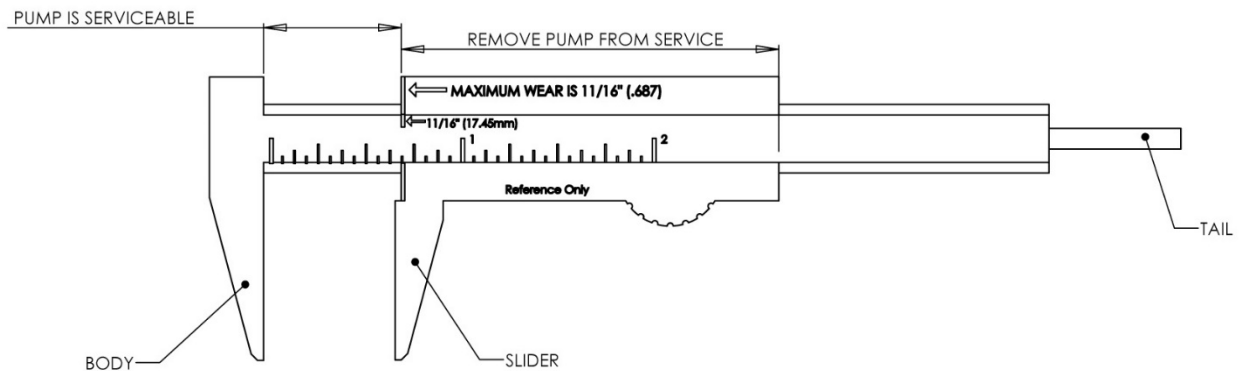

Figure 1
7. Read the position of the of the S.M.A.R.T caliper slider relative to the S.M.A.R.T caliper body in accordance with the measurements on the caliper. (See figure 1 below) **Note:** The Maximum wear limit for the pneumatic pump is 11/16" (.687"). Any pneumatic pump wear greater than that should be removed from service.
8. Determine if pump is within serviceable limits. (See figure 1 below)